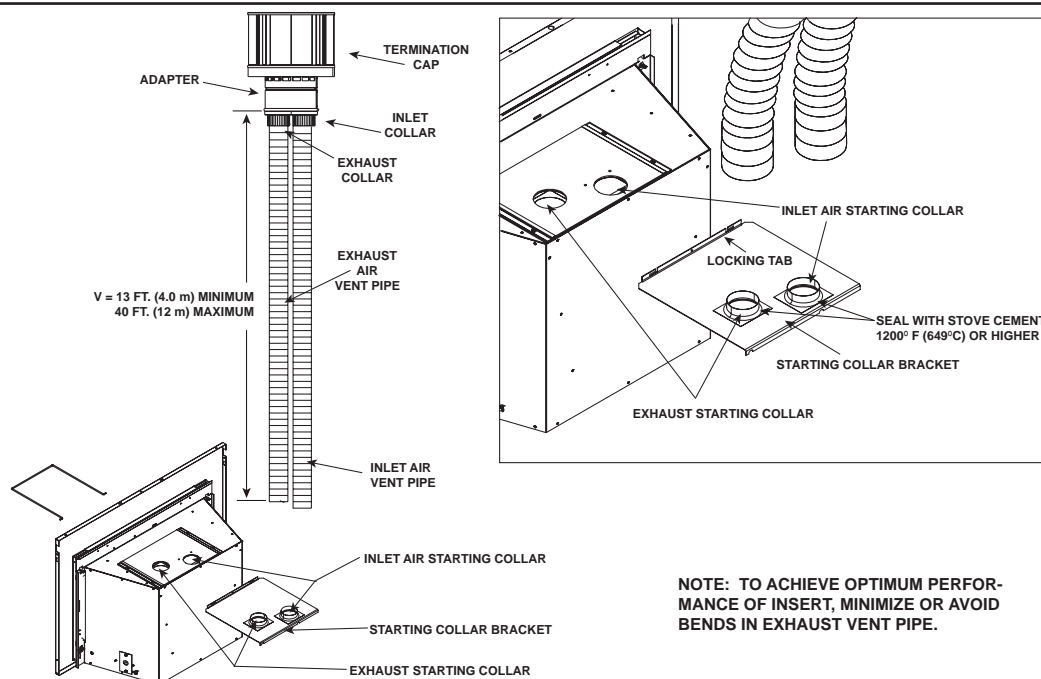

Figure 8.1
- Secure the exhaust flexible vent pipe to the exhaust starting collar on to of the appliance with three screws and seal with stove cement rated for continuous exposure to 1200°F or higher. See Figure 8.1.
- Use 3 screws to attach the section of inlet air vent to the inlet collar on the collar slide plate and seal with stove cement rated for continuous exposure to 1200°F or higher. See Figure 8.1. NOTE: The collar slide plate may be removed from appliance to aid installation.
- Secure collar slide plate to appliance by placing locking handle into position with locking tabs (see Figure 8.1) and secure with #8 screw.